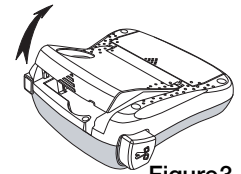

Figure 3
- 1 Lift the tape cassette cover to open the tape compartment. See Figure 3.